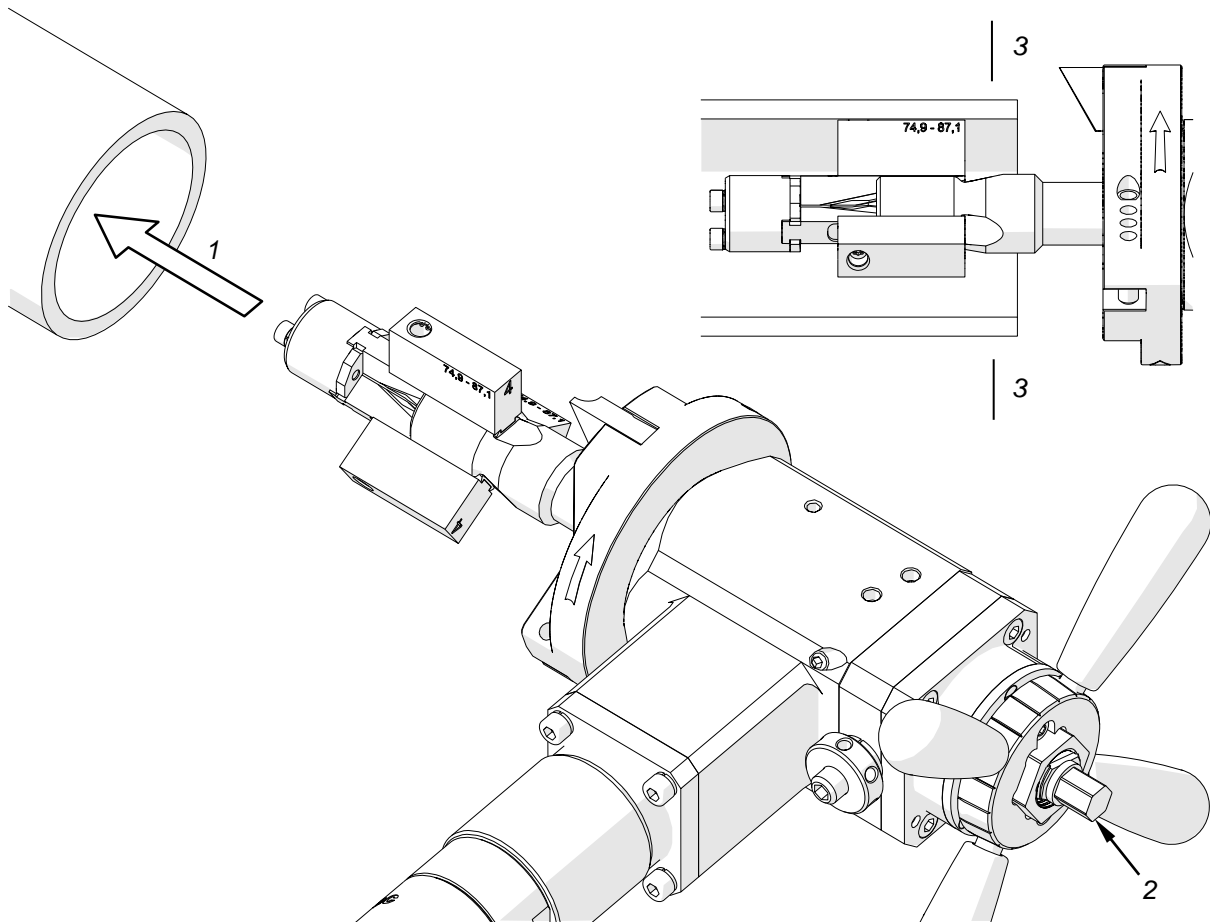

Fig. 5. Clamping the machine into the pipe
Insert the machine into the pipe (1, Fig. 5) so that the tool bits are placed at least 3 mm (0.12") from the pipe end. Then, use the 13 mm socket wrench to rotate the draw nut (2) to the right to expand the jaw blocks and clamp the machine into the pipe. The jaw blocks must be installed beyond the end preparation location (3).